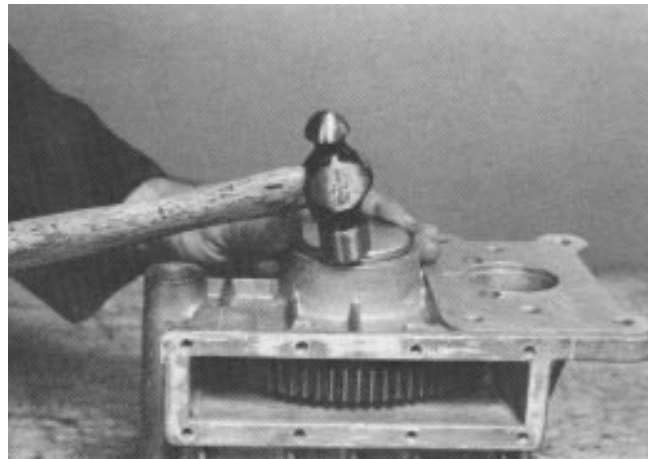

Figure 45
11. Apply a small bead of Permatex No. 2 or silicone sealant to the outer edge of the carrier bore. Install the expansion plug (or seal if equipped with flange for 4WD) into carrier until plug or seal seats firmly in carrier bore (Fig. 45).